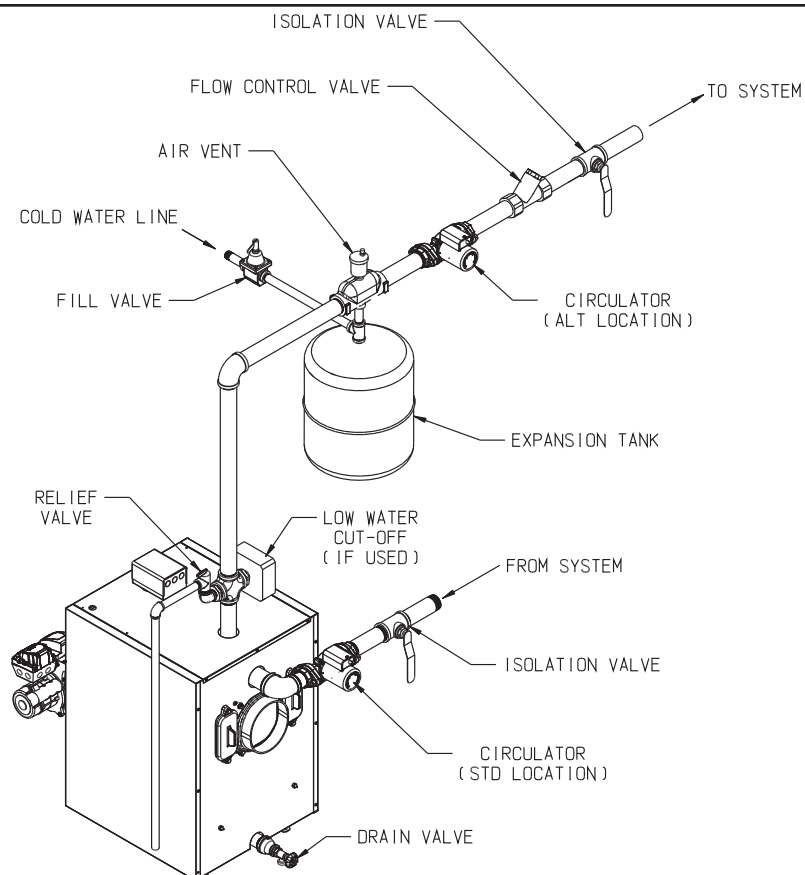

FIGURE 8.2: STANDARD BOILER PIPING
Figure 8.2 shows typical boiler system connections on a single zone system. Additional information on hydronic system design may be found in the *I=B=R* Guide RHH published by the Air-Conditioning, Heating and Refrigeration Institute (AHRI). The components in this system and their purposes are as follows:
- 3) **Circulator (Required)** - Figure 8.2 shows the ideal location of the circulator which is in the supply piping immediately downstream of the expansion tank. A less ideal, but acceptable, location for most residential circulators is in the return. The circulator/s and connected piping should be sized so that the temperature rise across the boiler is 20°F. Burner operation while the flow through the boiler is less than that shown in Table 8.0, column (a) could result in problems regulating the supply temperature. If the system is zoned, the flow rate through the boiler should be greater than that shown in Table 8.0 when only the zone having the lowest flow rate is on. If this requirement cannot otherwise be met, use a bypass, or primary-secondary piping. Boiler head loss data at the minimum flow and the flow corresponding to a 20°F rise are shown in Table 8.0.